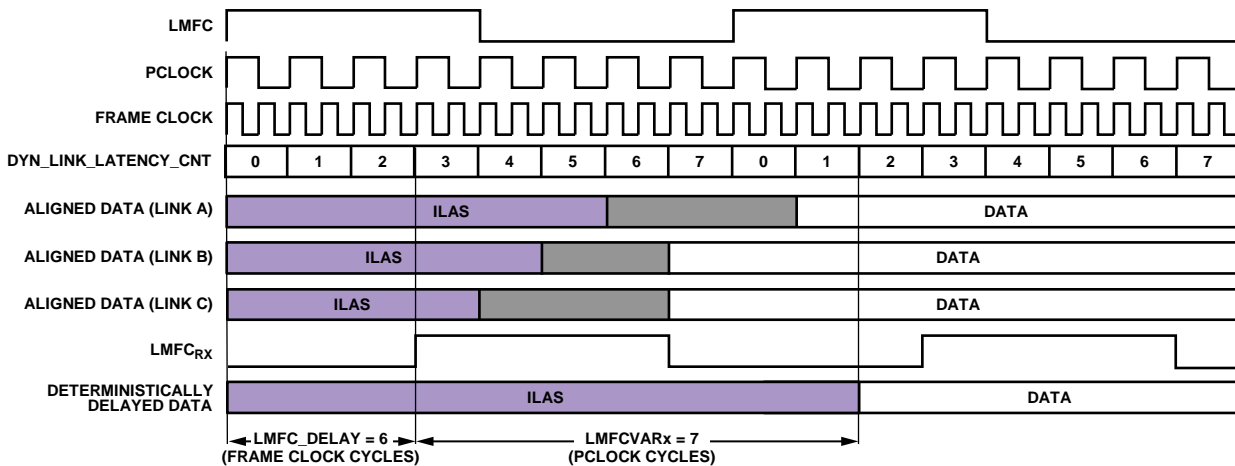

Figure 56. Multilink Synchronization Settings, Derived Method Example
Figure 56 shows how DYN_LINK_LATENCY_x (Register 0x302 and Register 0x303) provides a readback showing the delay (in PClock cycles) between LMFC_{RX} and the transition from ILAS to the first data sample. By repeatedly power-cycling and taking this measurement, the minimum and maximum delays across power cycles can be determined and calculate LMFCVar and LMFCDel.
The example shown in Figure 56 is demonstrated in the following steps according to the procedure outlined in the Without Known Delays section. Note that this example is in Subclass 1 to achieve deterministic latency, which has a PClockFactor (FrameClockRate/ PClkRate) of 2 and uses K = 16; therefore PClocksPerMF = 8.
1. In Figure 56, for Link A, Link B, and Link C, the system containing the AD9154 (including the transmitter) is power cycled and configured 20 times. The AD9154 is configured as described in the Device Setup Guide section. As the point of this exercise is to determine LMFCDel and LMFCVar, the LMFCDel is programmed to 0 and the DYN_LINK_LATENCY_x is read from Register 0x302 and Register 0x303 for Link 0 and Link 1, respectively. The
variation in the link latency over the 20 runs is shown in Figure 56 in gray.